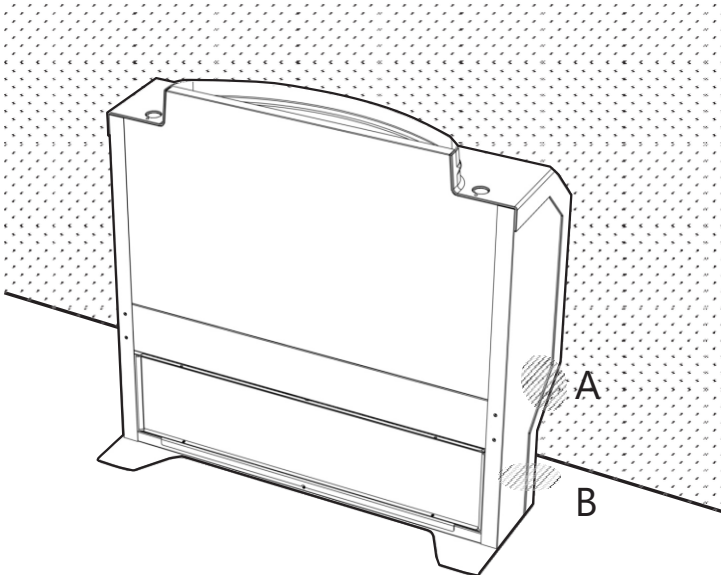

Figure 3. The ideal hole locations at the lower right corner of the system
- Ideally the piping and drainage should exit the indoor unit at the lower right corner and be guided outside through the floor or wall (see Figure 3).